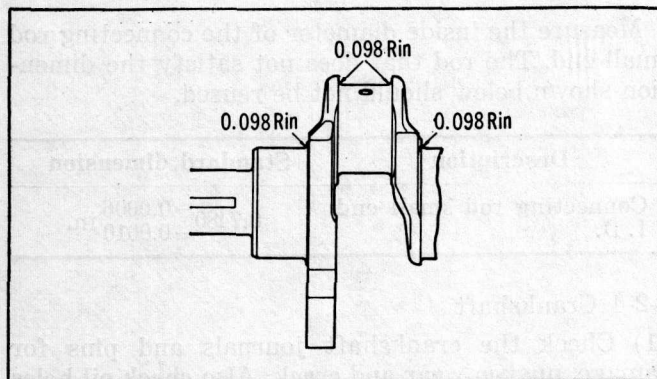

Fig. 90 Fillet R Section
2. When grinding the crankshaft to undersize, use care to the size of R of each fillet of the journal and pin. (Fig. 90)